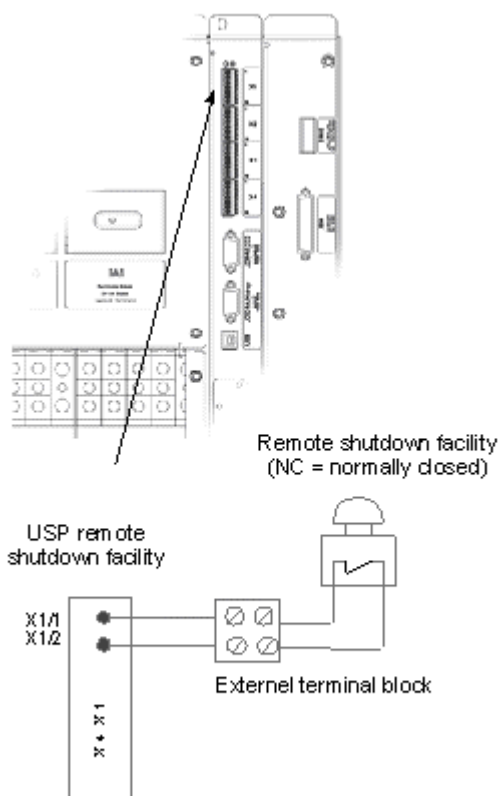

Fig. 29: Wiring of a remote shutdown facility
2. Connect the cable as shown in Fig. 29.